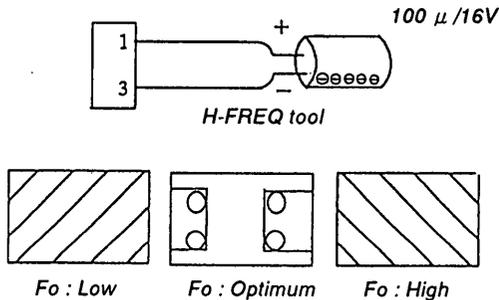

Fig. 1
5. Adjust **[60H-FREQ]** so that the diagonal lines on the screen become vertical lines. (Fig. 1)
7. Adjust **[50H-FREQ]** so that the diagonal lines on the screen become vertical lines. (Fig. 1)